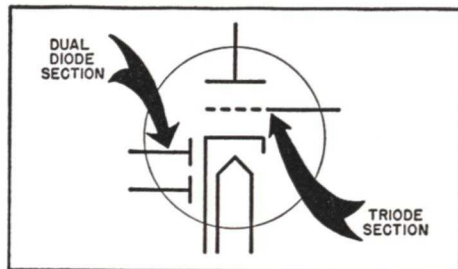

FIG. 32. Two diodes and a triode in a single envelope.
► Another popular combination is that of the diode and triode tubes. The detector in most modern radios is a diode tube. Its output feeds into an audio tube, which is usually a triode. Another diode is desirable at the same point in the circuit for control purposes, so very often all three are combined in modern radios into one dual diode-triode tube. Fig. 32